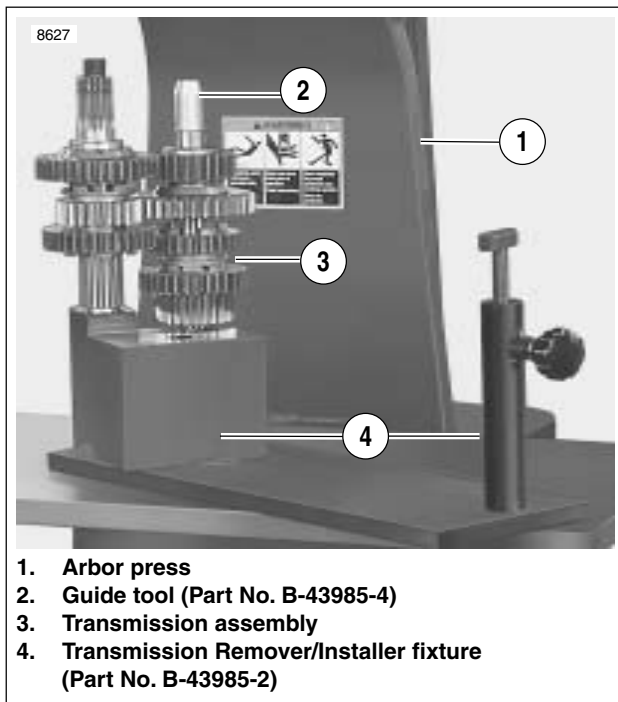

Figure 6-83. Transmission Assembly in Fixture
1. See Figure 6-83. Place transmission assembly onto TRANSMISSION REMOVER/INSTALLER FIXTURE (Part No. B-43985-2) on arbor press.